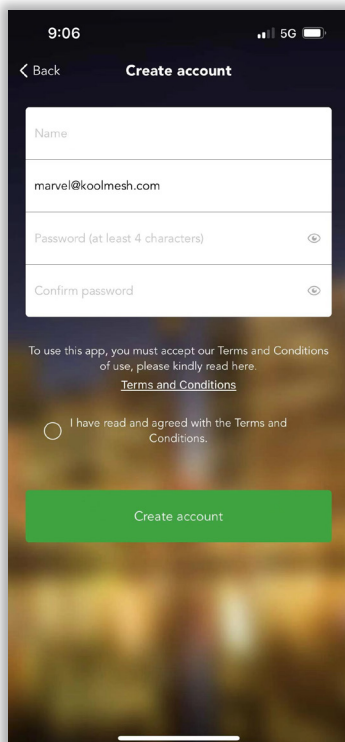
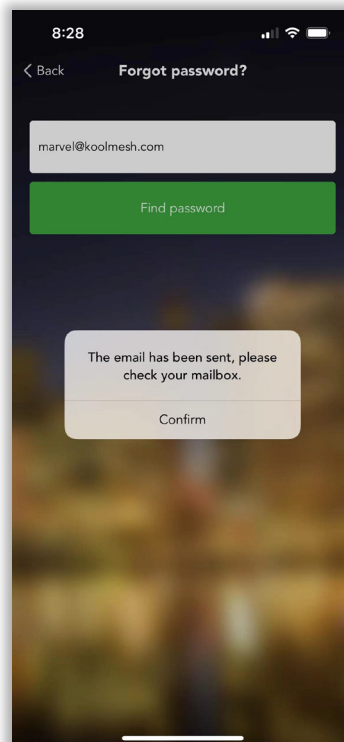

Figure 1.1 Create account
Figure 1.2 Retrieve password
2. First-time users, then they need to create an account, fill in and accept the terms and conditions as requested (see figure 1.1). If users forgot the password, then users can click "Forgot password?" to find it back, and Koolmesh app will send the password by email which needs to be valid (see figure 1.2).